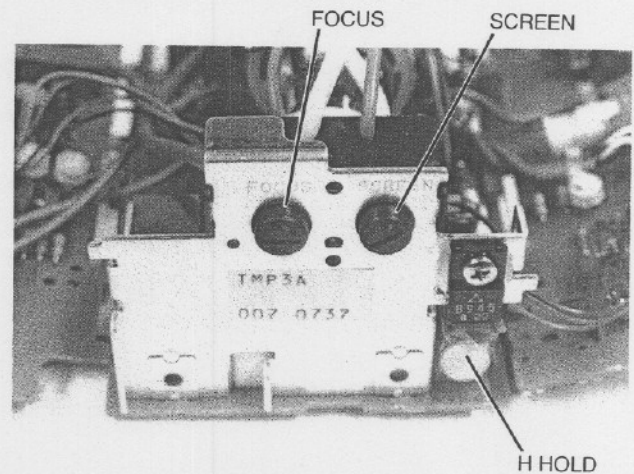

Figure 3-14. Screen, focus and H-hold controls
3. Adjust the SCREEN control for a visible green raster. Refer to Figure 3-14.
4. Set the SCREEN control fully CCW. Refer to Figure 3-14.
1. If the picture falls out of sync horizontally, adjust H Hold for a single, upright display. Refer to Figure 3-14. Set to the middle of the range where the picture remains in sync.
3. Refer to Figure 3-14. Adjust FOCUS for best overall focus. Set the control at the clockwise end of the range that produces best overall focus.